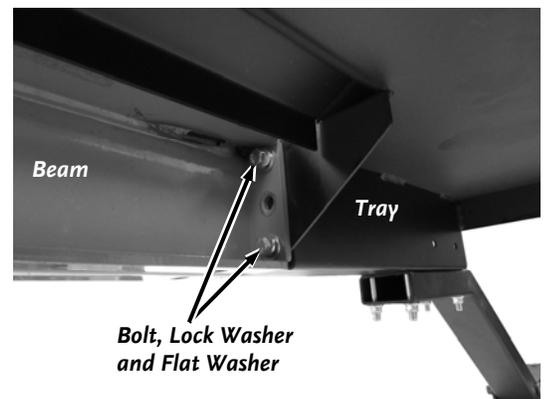

Figure 11
6. Install the four Bolts, Lock Washers and Flat Washers (from the tray kit) to secure the Tray to the end of the Beam using a 9/16" Wrench (**Figure 11**).